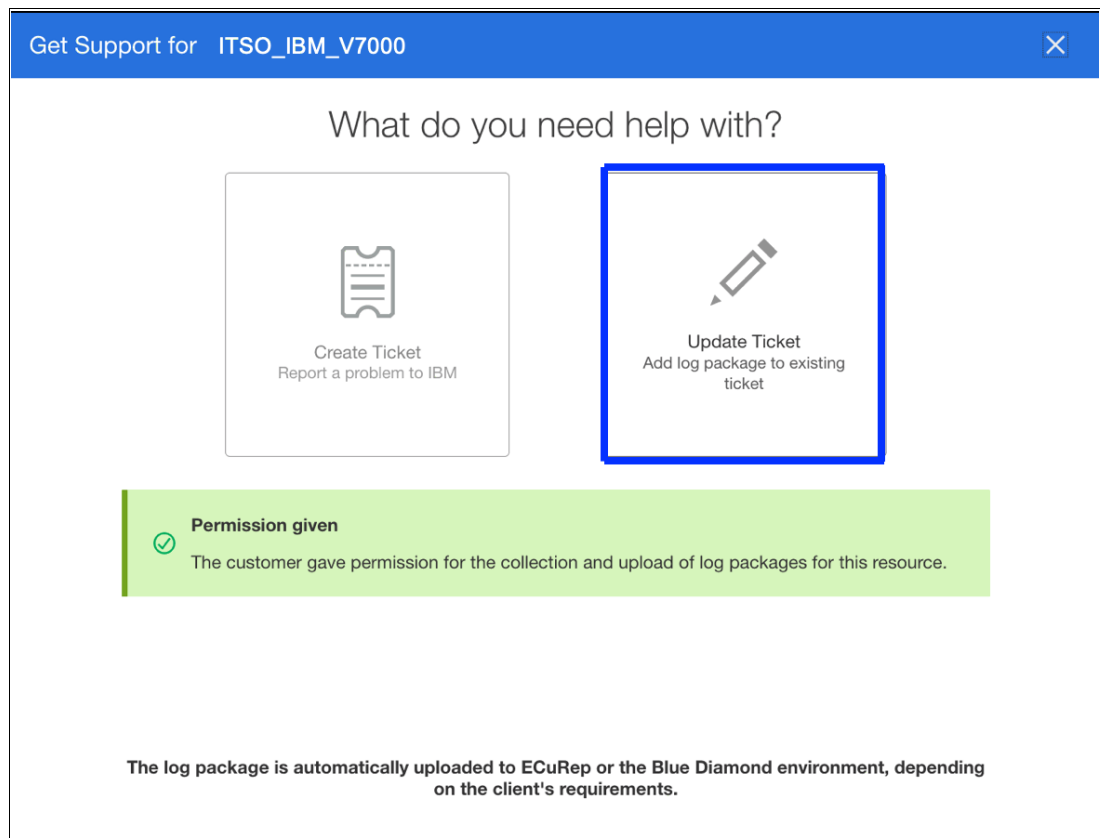

Figure 11-19 SI Update Ticket
2. Figure 11-19 shows the initial menu to update a ticket. Select the **Update Ticket** option.